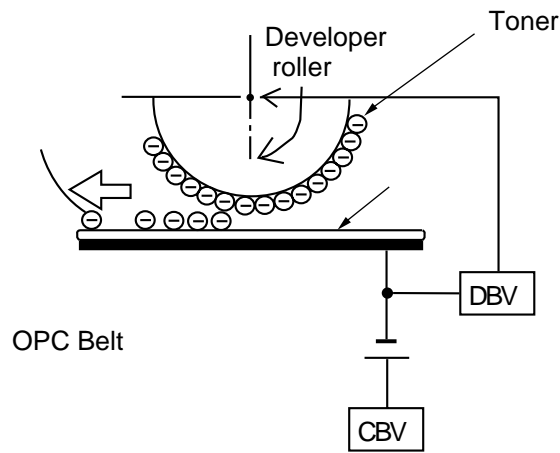

Fig.4-15
- ii) Dev.roller has been biased to the potential  $-DBV(V)$ . Fig.4-15 describes the relationship established between the potential of toner, the potential  $-V_0(V)$  at the non-exposed area of OPC belt and the potential  $-VR(V)$  at the exposed area of OPC belt.